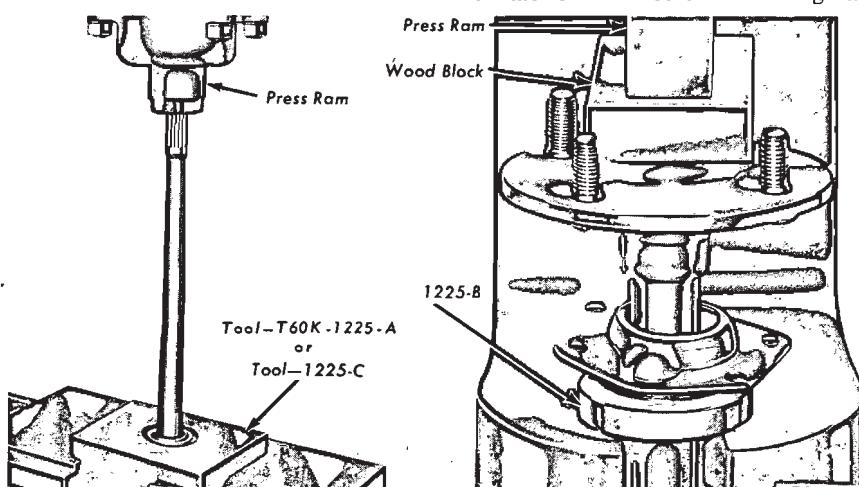
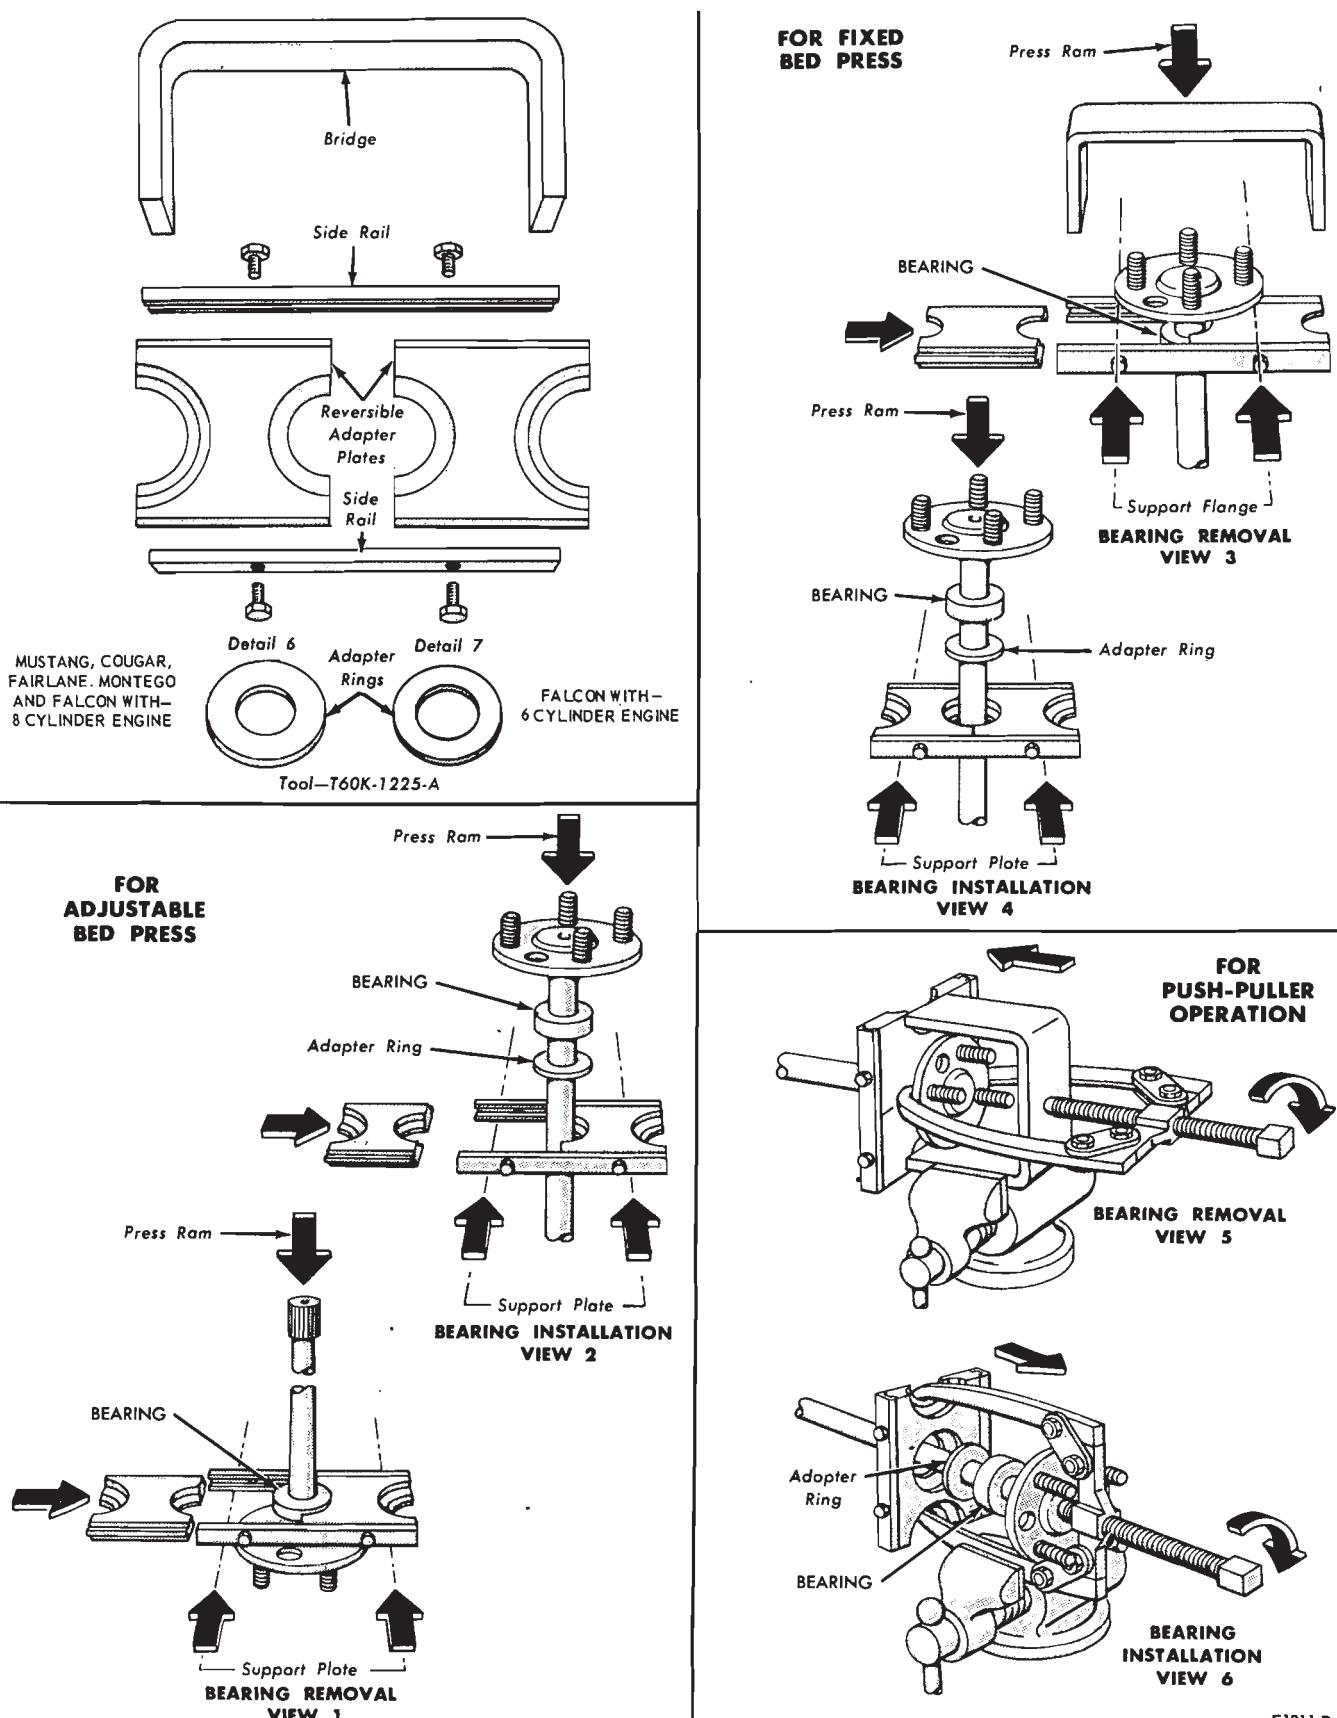

FIG. 5—Removing and Installing Rear Wheel Bearing
FIG. 6—Removing and Installing Rear Wheel Bearing—Falcon, Mustang and Fairlane
5. Remove the bearing from the axle shaft with the tool shown in Fig. 5 or 6. If the push-puller operation shown in Fig. 6 is used, be sure that the puller arms contact the flat surface of the axle shaft flange rather than the bolt heads. Also with this method, be careful not to damage or burr the oil seal journal as the bearing breaks loose.
9. Place the retainer plate on the axle shaft, and press the new wheel bearing on the shaft with the tool shown in Fig. 5 or 6. The bearing should seat firmly against the shaft shoulder. Do not attempt to press on both the bearing and the inner retainer ring at the same time.